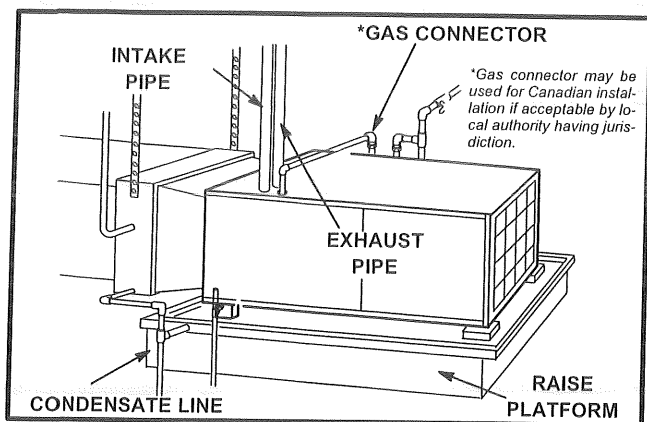

FIGURE 24
- 3 - Set unit in drain pan as shown in figure 24. Unit must be level to ensure proper coil drainage. Leave 5-1/2 inches for service clearance below unit for condensate trap.